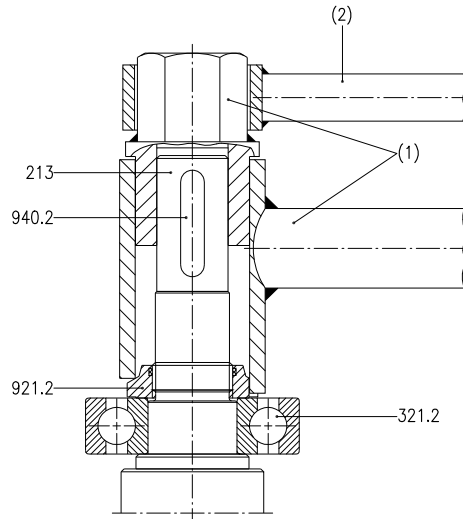

Fig. 17: Disassembly shaft nut (frame. 0-III)
6. Attach the puller (1) – see chapter 7.4.3 – to the inner ring of the cylinder roller bearing and screw it tightly. Consider figure 17.
7. Fit the jack plate (2) – see chapter 7.4.3.
8. Fit the puller (3) and pull off the inner ring of cylinder roller bearing.